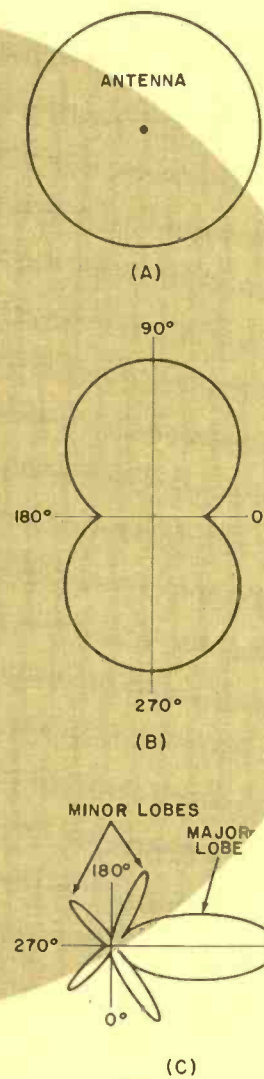

Fig. 2. Polar diagrams for antennas: (A) isotropic; (B) dipole; (C) beam.
**Omnidirectional Antennas with Gain.** This class of antennas offers some gain over the simple types without sacrificing directivity. No, that's not a contradiction of what was said previously. (You don't get something for nothing.) The increased power is taken from signal components that would be radiated at higher angles. The polar diagrams shown in Fig. 2 are two-dimensional—but antennas radiate in *three* dimensions. So, the radiation pat-